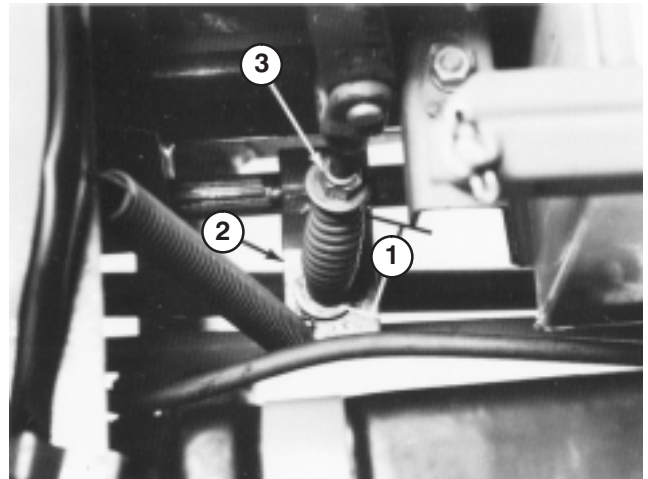

Figure 41
- 3. Measure length of PTO spring between flat-washers (Fig. 41). There should be a spring length of 3-3/16 inches (81 mm).
- 4. To adjust, hold head of adjusting screw with wrench (under PTO actuating arm) and turn locknut (Fig. 41).